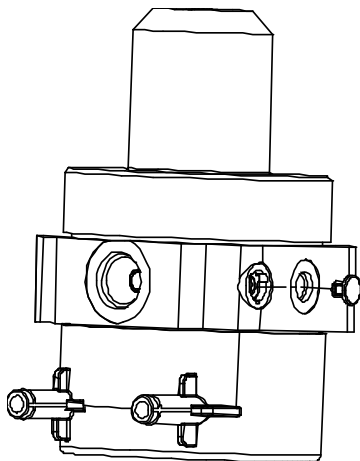

Figure 2 - PRD dust cover removal
1. Prior to any disassembly, fully bleed system pressure, clean around the existing PRD, and verify system is depressurized. Remove plastic dust cover from the spring retainer by prying it out of the recess with a sharp instrument. See Figure 2.